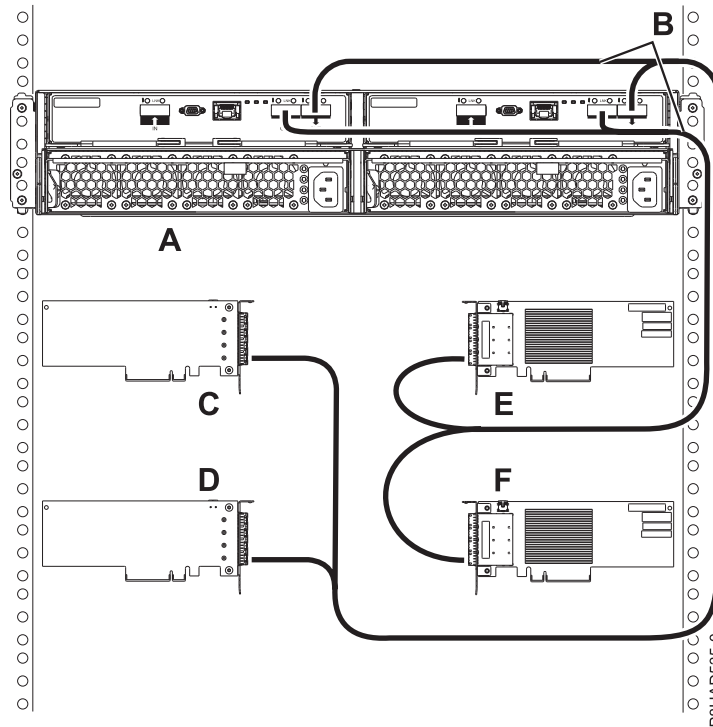

Figure 127. Mode 4 connection of a 5887 enclosure by using X cables to four single PCIe3 SAS adapters with HD narrow connectors.
**Note:** See Figure 127 on page 198 for examples of the following types of connections:
- The cable that plugs into independent SAS adapter 1 (C) contains a label with the P1 identifier. This adapter does not have access to any other independent adapter and has access only to drive bays D1 - D6.
- The cable that plugs into independent SAS adapter 2 (D) contains a label with the P2 identifier. This adapter does not have access to any other independent adapter and has access only to drive bays D7 - D12.
- The cable that plugs into independent SAS adapter 3 (E) contains a label with the P1 identifier. This adapter does not have access to any other independent adapter and has access only to drive bays D13 - D18.
- The cable that plugs into independent SAS adapter 4 (F) contains a label with the P2 identifier. This adapter does not have access to any other independent adapter and has access only to drive bays D19 - D24.